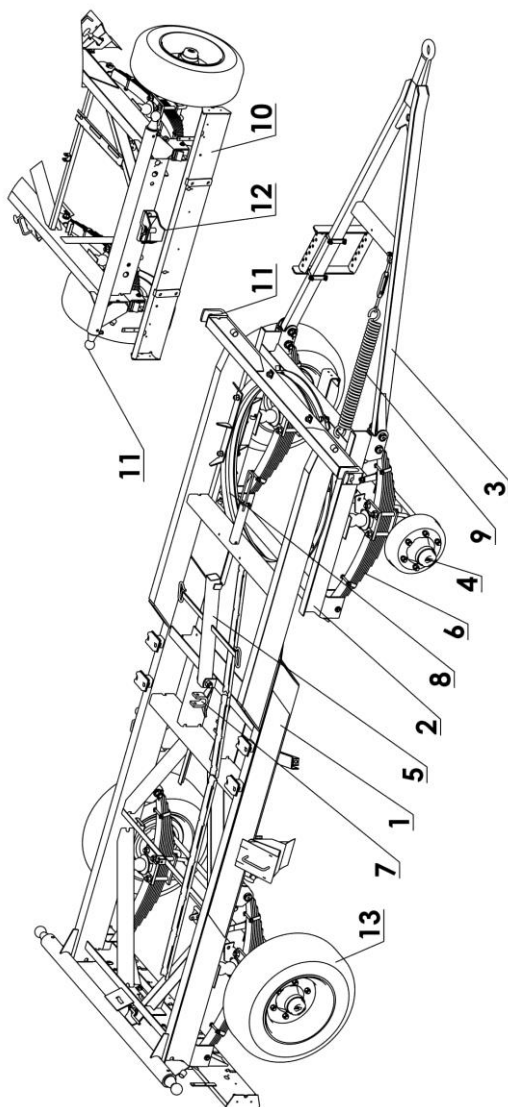

Figure 5. Trailer chassis.
The chassis of the trailer consists of the following parts shown in Fig. 5.
The upper frame is mounted on the pins of the lower frame (item 11, fig. 5) in swiveling sockets secured with bolts, which are rotation points when tipping the load box.